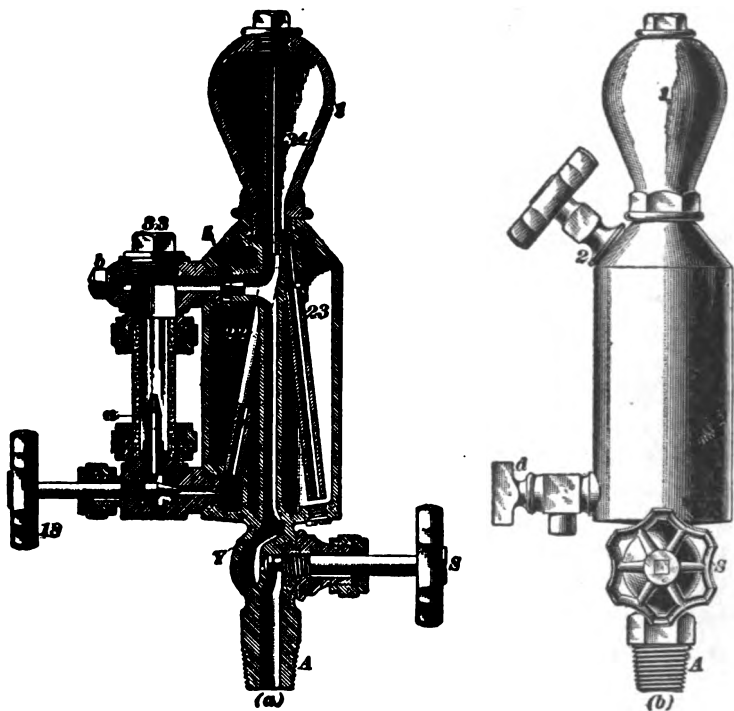

FIG. 25.
**65. The Nathan Lubricator.**—The Nathan independent air-pump lubricator is shown in Fig. 25, (a) being a section and (b) an elevation. Connection is made at *A* with the air-pump supply pipe, so that, when the steam valve *S* is open, steam passes up through *Y* and the condenser tube *34* into the condenser *1*. Steam can also pass through the choke plug *5* into the upper feed-arm, so that the pressure above the water in the glass is equal to the pressure in the condenser. The condenser remains nearly full of water, which can pass down into the reservoir through the water pipe *23*. The oil in the reservoir is thus raised up and forced down into the oil pipe *22*, as shown by the arrows. When the regulating valve *18* is opened, the head of water in the lubricator forces the oil through the valve; it then floats to the surface of the water in the glass, and is carried through the choke plug *5* into the passage *Y*, where it passes down to the steam-supply pipe by the force of gravity.